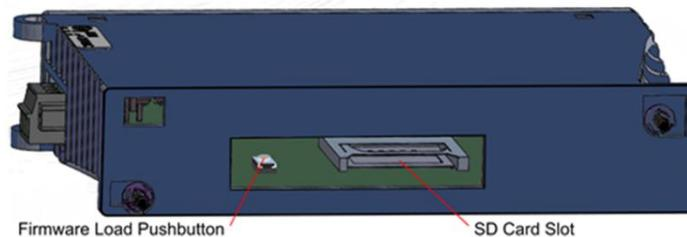

Figure 8: Rear View of GCG001
The SD card slot is designed to support a Secure Digital (SD) non-volatile memory card in standard capacity format. This optional card has two distinct uses: (1) backup storage of some key PROFINET configuration data and (2) loading new GCG001 module firmware. Insert the SD Card into its slot at the rear of the GCG001 before mounting the module, as shown in Figure 8.
Refer to the rear view of the GCG001 module shown in Figure 8 (above). Whenever the GCG001 firmware needs to be updated, remove the SD card from its slot at the rear of the module, then install the SD Card in your PC and copy the new firmware to the SD Card. The ZIP file containing the GCG001 firmware upgrade may be found on the GE Automation & Controls Product Support web-site <http://www.geautomation.com>_Unzip the file as shown in the following figure.
After the SD card has received an update of the GCG001 firmware, install the SD card in its slot (see Figure 8). Note that the GCG001 must not be powered up while installing the SD Card. Next, while holding down the Firmware Load Pushbutton (see Figure 8), apply power to the module. This action causes the firmware to be copied from the SD Card to the GCG001 module itself. Continue holding the pushbutton until the OK LED turns amber, then release the pushbutton. When the OK LED turns green, the firmware has been loaded. Cycle power on the module and wait for the OK LED to turn green and steady. The module is then ready to be properly mounted (see section 1.7.1).